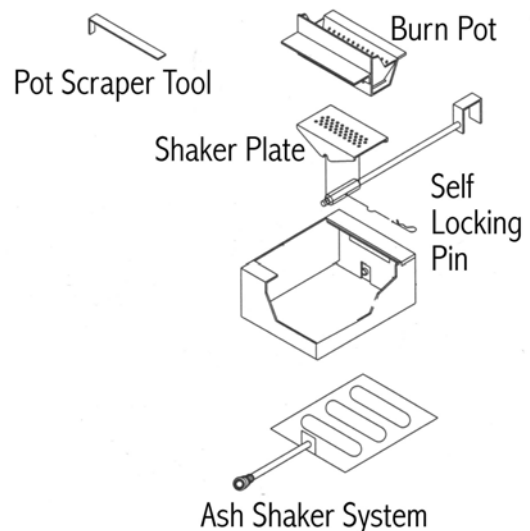
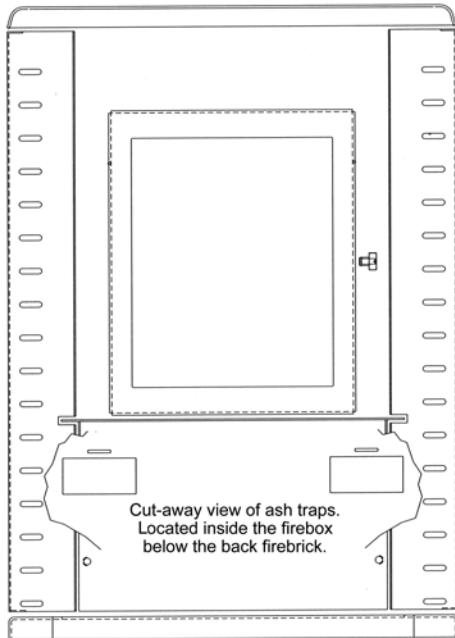

Figure 3
Figure 4.
1. Check grate bottom (See figure 3) to determine if holes are plugged. Clean as needed. With proper precautions the grate may be partially cleaned while the stove is hot. Follow these steps:
2. Remove ash buildup under the grate bottom daily. (See figure 3 on previous page. Ash shaker system.)
4. Check exhaust clean outs (Figure 4). Use scraper shown in (Figure 3) to scrape ash into ash pan. IT IS CRITICAL THAT YOU KEEP ASH CLEAN OUT CLEAN FOR SATISFACTORY PERFORMANCE.
2. The Pepin has 2 exhaust cleanouts located below the rear ceraboard. Remove covers and clean regularly. (See figure 4 on page 9.)
3. Clean burn grate holes at least weekly, remove the burn grate. Use a small metal object to clean out plugged holes. (See figure 3 on page 6.)
Figure 4 shows the location of the ash traps. Frequency of cleaning depends on the amount of fuel being burnt and the quality of the pellets. Fuel with low ash content is recommended. **Failure to clean the ash traps can cause the stove to become plugged with fly ash.**
1. **Spring Shutdown.** After the last burn in the spring, cool the stove. Remove all pellets from the hopper and the auger. Thoroughly clean the burn grate, burn grate box, ash pan and ash traps behind the ash pan. (To locate the ash traps see figure 4)